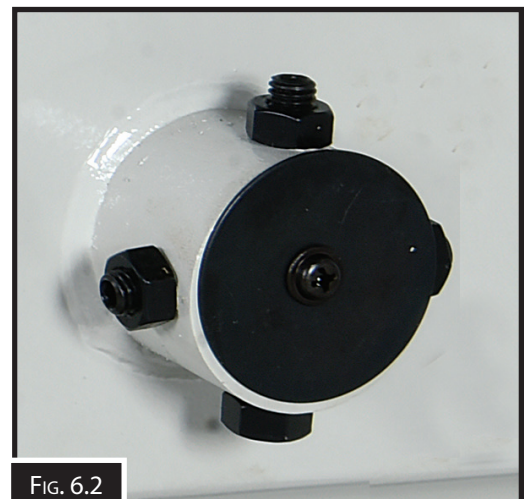

FIG. 6.2
5. The hub on the bottom wheel allows you to adjust the lower wheel in the desired direction. By loosening the lock nuts and turning all the grub screws clockwise in equal amounts, pushes the wheel forward. Turning all the grub screws counter clockwise moves the wheel towards the back of the machine. When the grub screws are adjusted individually, each grub screw controls the direction that the wheel tilts. (Fig. 6.2)